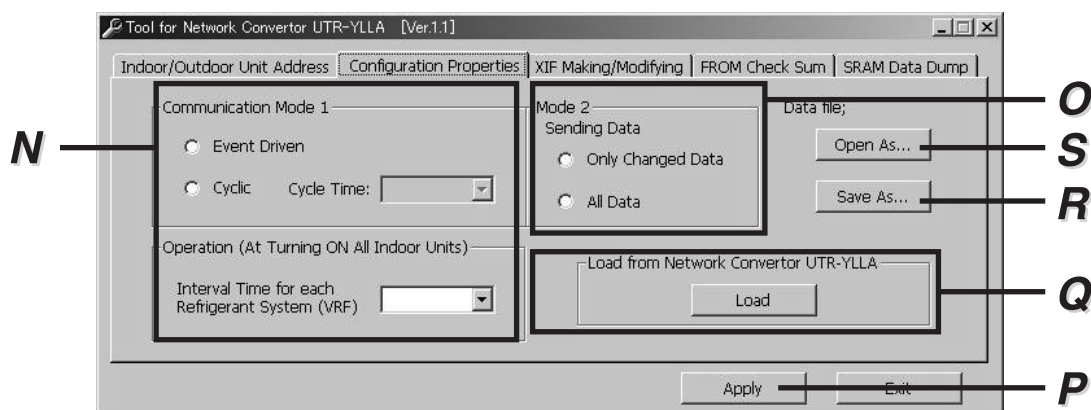

Fig. 14 Configuration Properties
- a-1) Communication Mode (**N** in the screen shown in Fig. 14)
- a-2) Interval Time (**N** in the screen shown in Fig. 14)
- b) Hvac Mode (**O** in the screen shown in Fig. 14)
- 2** Click “Apply” (**P** in the screen shown in Fig. 14) to apply the properties to the UTR-YLLA.
Click “Load” (**Q** in the screen shown in Fig. 14) to load the set configuration properties from the UTR-YLLA.
Click “Save As...” (**R** in the screen shown in Fig. 14) to save the loaded or edited data as the configuration properties data file.
Click “Open As...” (**S** in the screen shown in Fig. 14) to open the saved data.